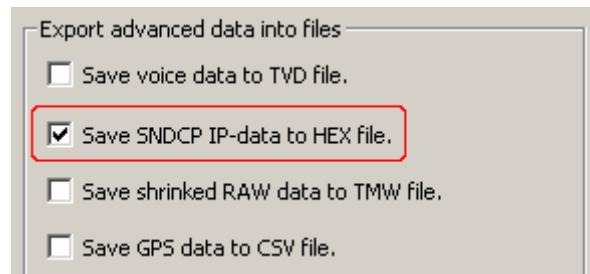

Figure 81 SNDCP data export option in the AirAnalyzer
- 1 The SNDCP dump data must be exported to a hex file (see Figure 81).